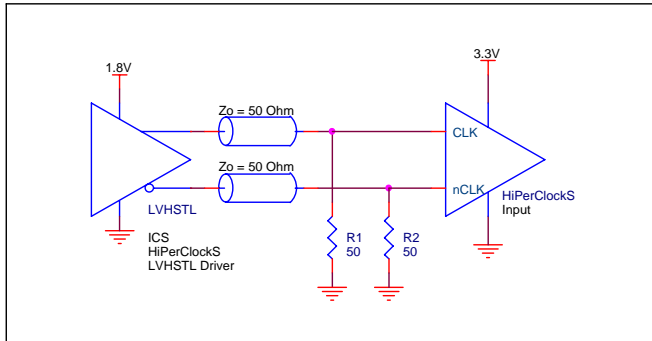

**FIGURE 2. SINGLE ENDED SIGNAL DRIVING DIFFERENTIAL INPUT**
*Figure 2* shows how the differential input can be wired to accept single ended levels. The reference voltage  $V_{REF} = V_{CC}/2$  is generated by the bias resistors  $R1$ ,  $R2$  and  $C1$ . This bias circuit should be located as close as possible to the input pin. The ratio